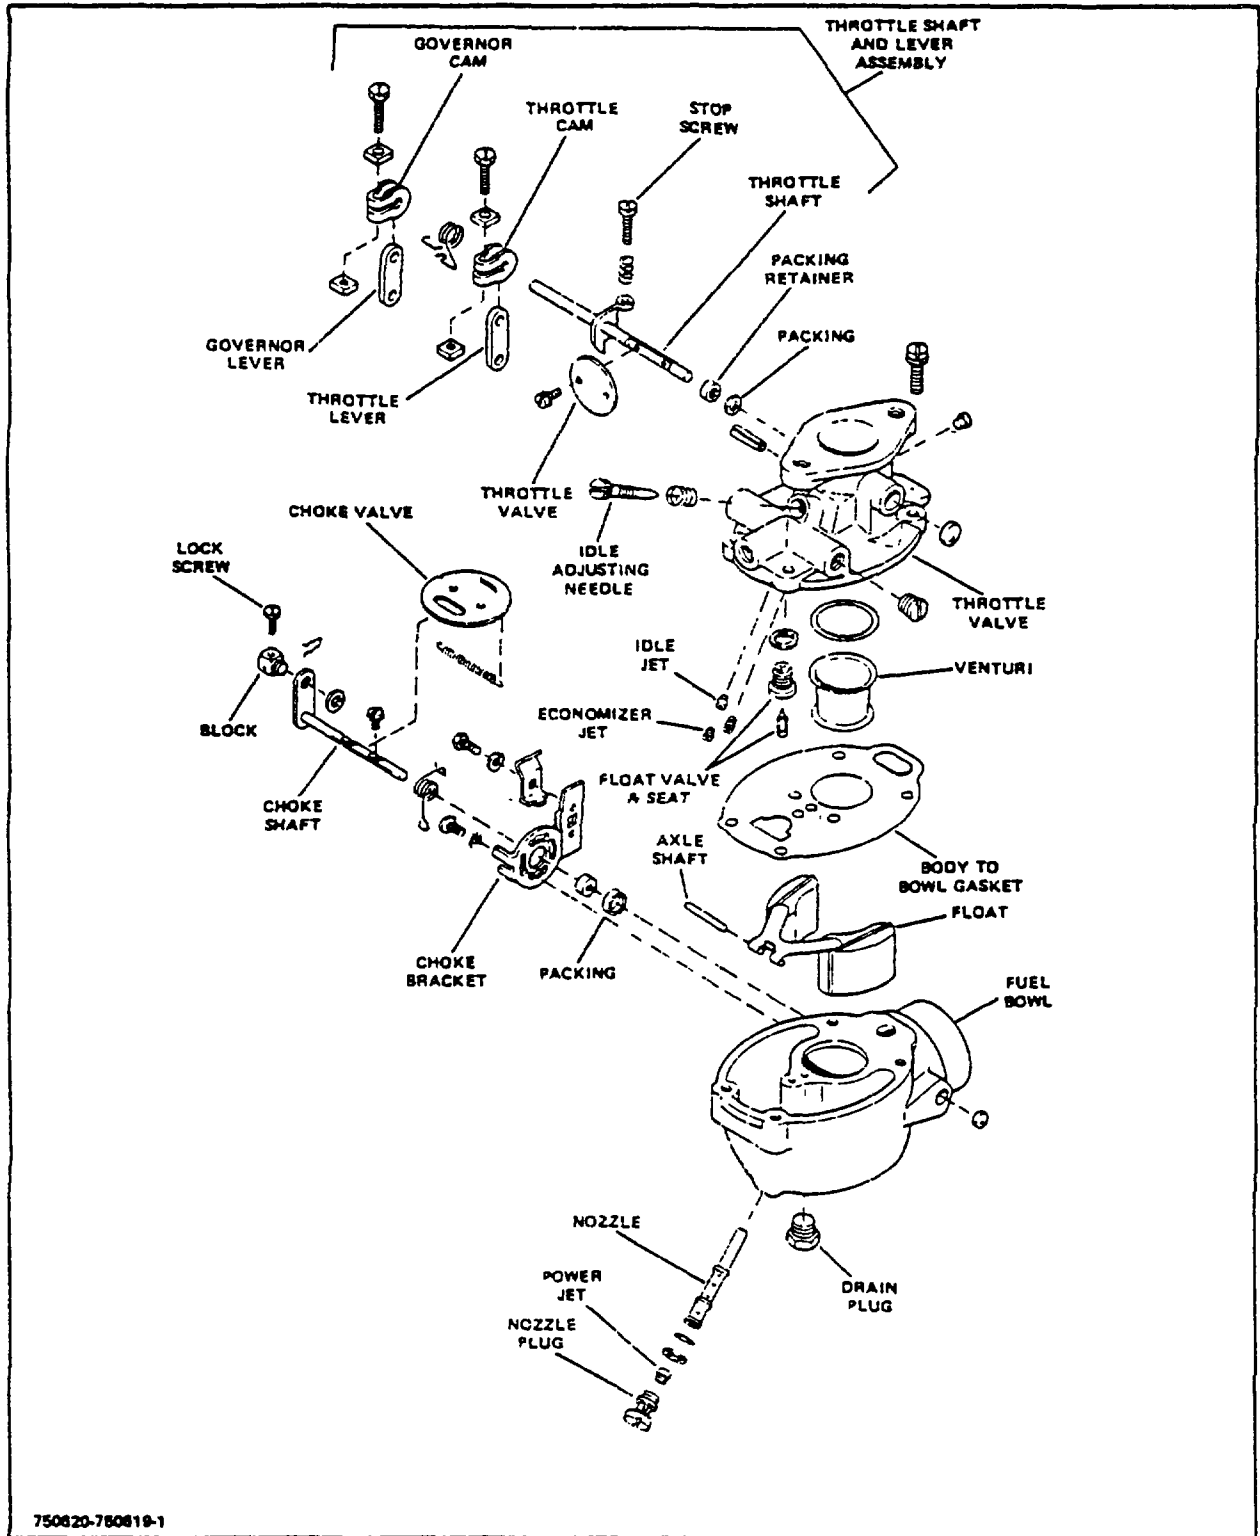

Figure 4-6. Carburetor (Type II) - Exploded View
1. Remove drain plug and drain fuel bowl. Remove four screws attaching throttle body (Fig. 4-6) to fuel bowl.